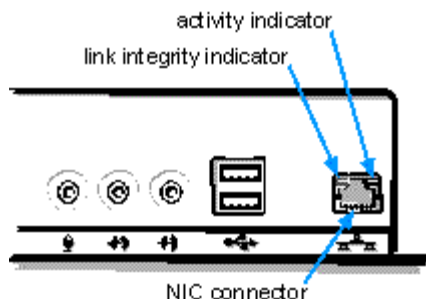

Figure 5-1. NIC Connector and Indicators
*When Wakeup On LAN is enabled in the System Setup program, the green link integrity indicator on the NIC connector (see Figure 5-1) remains on when the computer is turned off.*
The NIC connector on the computer's back panel (see Figure 5-1) has the following indicators:
Your computer's NIC connector (an RJ45 connector located on the back panel; see Figure 5-1) is designed for attaching an unshielded twisted pair (UTP) Ethernet cable. Press one end of the UTP cable into the NIC connector until the cable snaps securely into place.